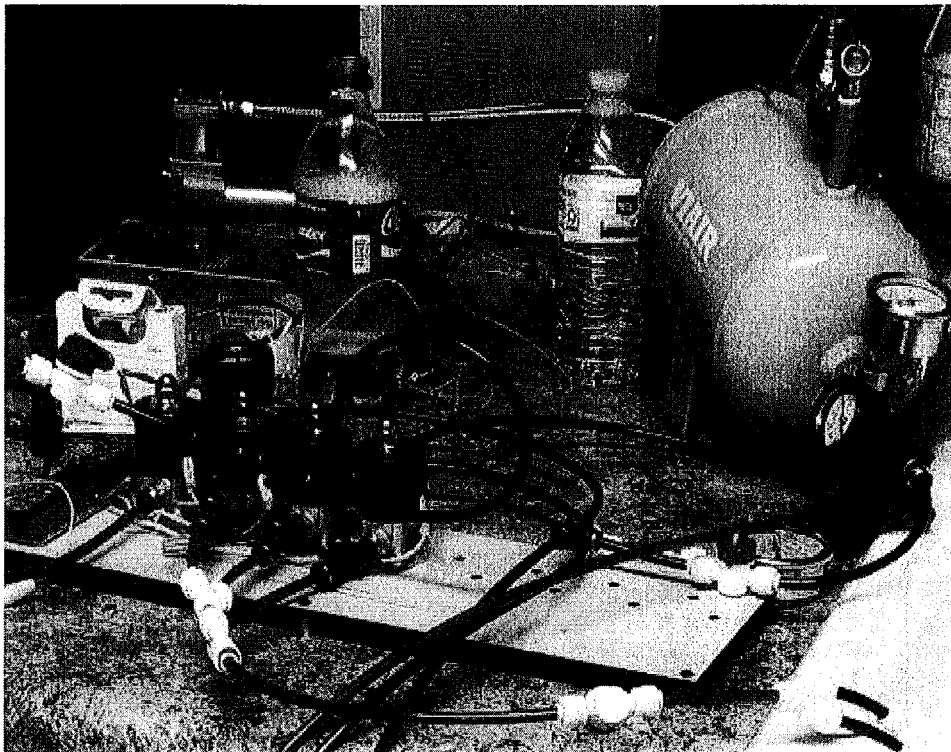
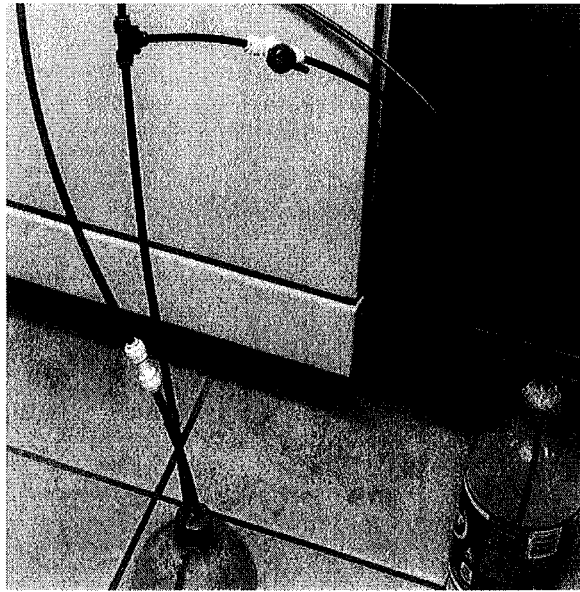
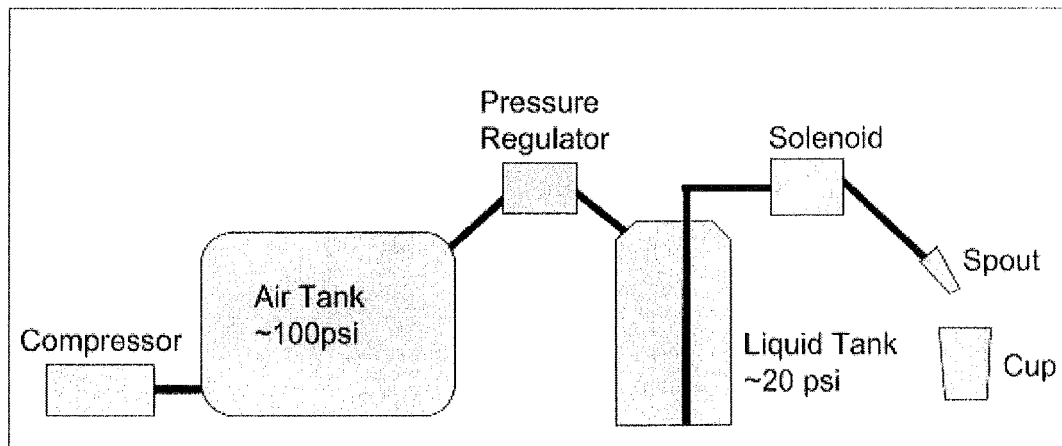

Figure 1: MVP #1 overall system
Figure 2: Bottle attachment
Figure 3: Diagram of System
The first MVP was a working prototype without anything to contain it all. This MVP tested to see if we could even make a device that works before going further. Figure 1 is the main part of MVP 1 with the exception of the bottles (shown in Figure 2) and the raspberry PI screen. The code for the raspberry PI is contained in appendix 1. And the for these components are contained in Appendix 2.
Air is compressed and stored in a tank which pressurizes the liquid containers. You can see in Figure 2 there are two lines, air pressure in that stops at the top of the bottle. And liquid out that goes to the bottom of the bottle. For the prototype 2 liter bottle caps were drilled to make room for the lines and glue was used to seal them. The pressure pushes the liquids to the solenoids. A control system, the raspberry pi computer controls turning on and off these solenoids to mix the appropriate amount. In this version, after the mix is done, air pressure is run through the lines to clean them out. Timing is able to be accurately used because the and liquid levels are insignificant to overall pressure. Therefore a set time will always output the right amount of liquid. Figure 3 shows a diagram of how one line of fluid is sent to the cup.
- About: The MVP how it was pictured in Figure 1 was taken to class and shown as part of the demonstration. During this demonstration we showed how you could select on the raspberry PI the amount of liquid you wanted to pour and it would pour it out.
- About: Showed her the picture of the device in Figure 3. Asked what she thought of it and if they would buy it
- About: Showed them the picture of the device in Figure 3. Asked what they thought of it and if they would buy it
MVP #4 is an improvement on the previous MVP's. While the previous MVP's were focused on just making it marketable based on suggestion, This iteration is solely devoted to improving the devices functionality based on feedback. It also finally adds the mixing feature selection in Figure 9 which was not previously added. Before it just had single liquid outputs at a time. Figure 7 shows the switch to plastic solenoids which are food grade. You can see the original in Figure 1. Figure 8 is the air line filter added to reduce/ eliminate contaminants in the air line. Figure 9 shows the what the user sees on the output screen the complete code is located in Appendix 1. Lastly, in this iteration, the air flush line is replaced with a water flush line as suggested by one of our interviews. The final bill of materials was assembled and determined the cost to be about \$500 for parts. This is located in Appendix 2.